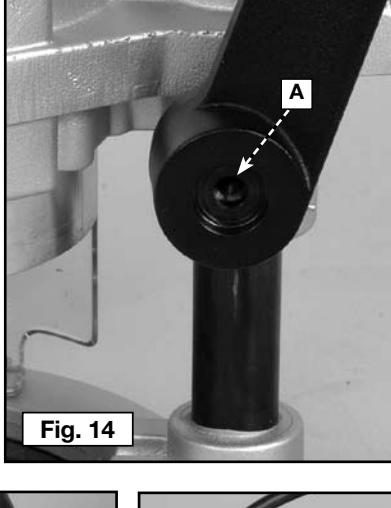

Fig. 14
2. Use an 1/8" hex wrench (A) Fig. 14 (not furnished) to turn the adjustment screw counter-clockwise approximately 1/2 turn.